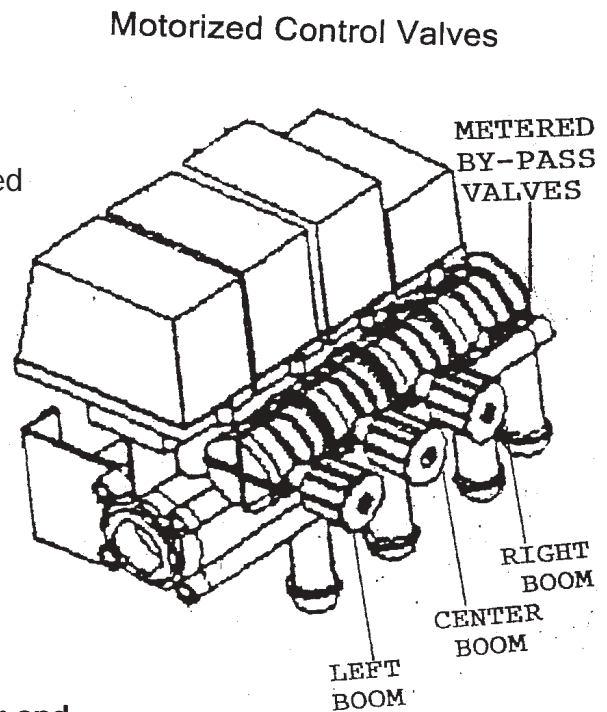

Figure 1
4. Close all three (3) **Metered Bypass Valves** (red knobs), by turning knobs in a clockwise direction as far as they will go (Figure 1).
5. Open all three (3) sections of the boom from the **Control Panel**. Set desired operating pressure using electric **Control Switch** on the **Control Panel**. To set the **Metered Bypass Valve**, close one boom section at a time. Then, open the **Metered Bypass Valve** for that boom section until the desired operating pressure is achieved.